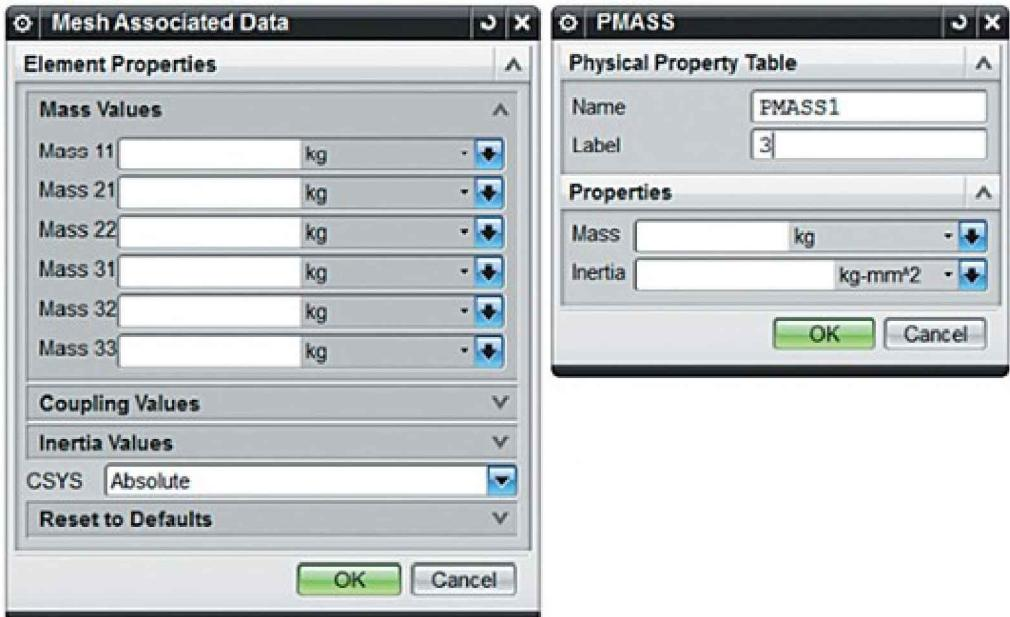

Figure 3.3. Specifying concentrated masses
- Specifying mass properties using concentrated masses. You can achieve this with *CONMi* or *CMASSi* 0D finite elements. Mass properties are specified for elements of the *CONMi* type in the **Mesh Associated data** dialog box, for *CMASSi* – *PMASS* type elements they are specified in element properties (Figure 3.3) or in *CONMi* or *PMASS* cards respectively [7, 8].